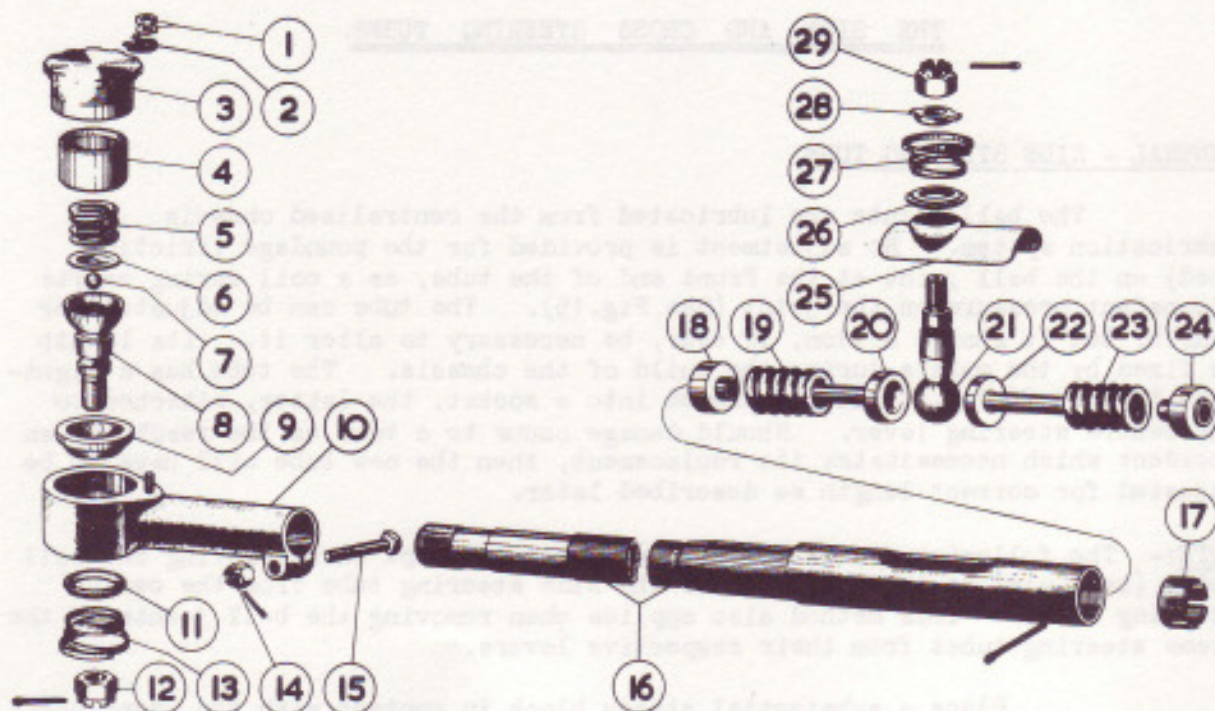

FIG. 14. "EXPLODED" VIEW OF SIDE STEERING TUBE.
- (iii) Remove split pin and nut (12, Fig.14) from the ball pin at the front end of tube. Carefully remove ball pin (8) from the centre steering lever and collect the pressure spring (13) and sealing disc (11).
Notation for Fig. 14.
- (e) After removal of side steering tube from the pendulum lever, collect the pressure spring (27, Fig.14), sealing disc (26), and mud excluder (25).
end of each stem of the ball pads (20 and 22 Fig.14), and the inner end of the tube and the inner face of the end nut. Secure end nut with a new split pin of the correct size.
- (1) With the mud excluder (25, Fig.14), sealing disc (26) and pressure spring (27) in position on the ball pin (21), enter the pin into the pendulum lever.
NOTE:- It is important that the mud excluder is placed the correct way round, i.e. with the longest plain portion pointing towards the rear end of the tube as shown in Fig.14.
- (i) With all parts (front and rear ball joints) assembled to the new tube, the front end cap nut (3, Fig.14) locked, and the rear end nut (17) securely split pinned, fit the tube (ball pin) to the pendulum lever as previously described.